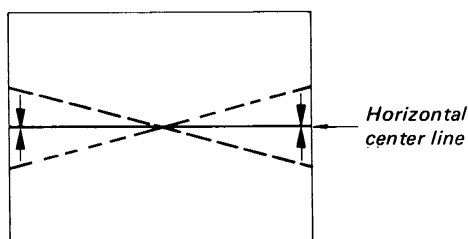

Fig. 3-6
- (1) Cover the red and blue lenses with caps equivalent.
- (2) Adjust RV5542 (H CENT (G)) and RV5540 (V CENT (G)) to center the picture.
- (3) Rotate the green deflection yoke to make the horizontal center line of cross-hatch pattern horizontal as shown in Fig. 3-6.